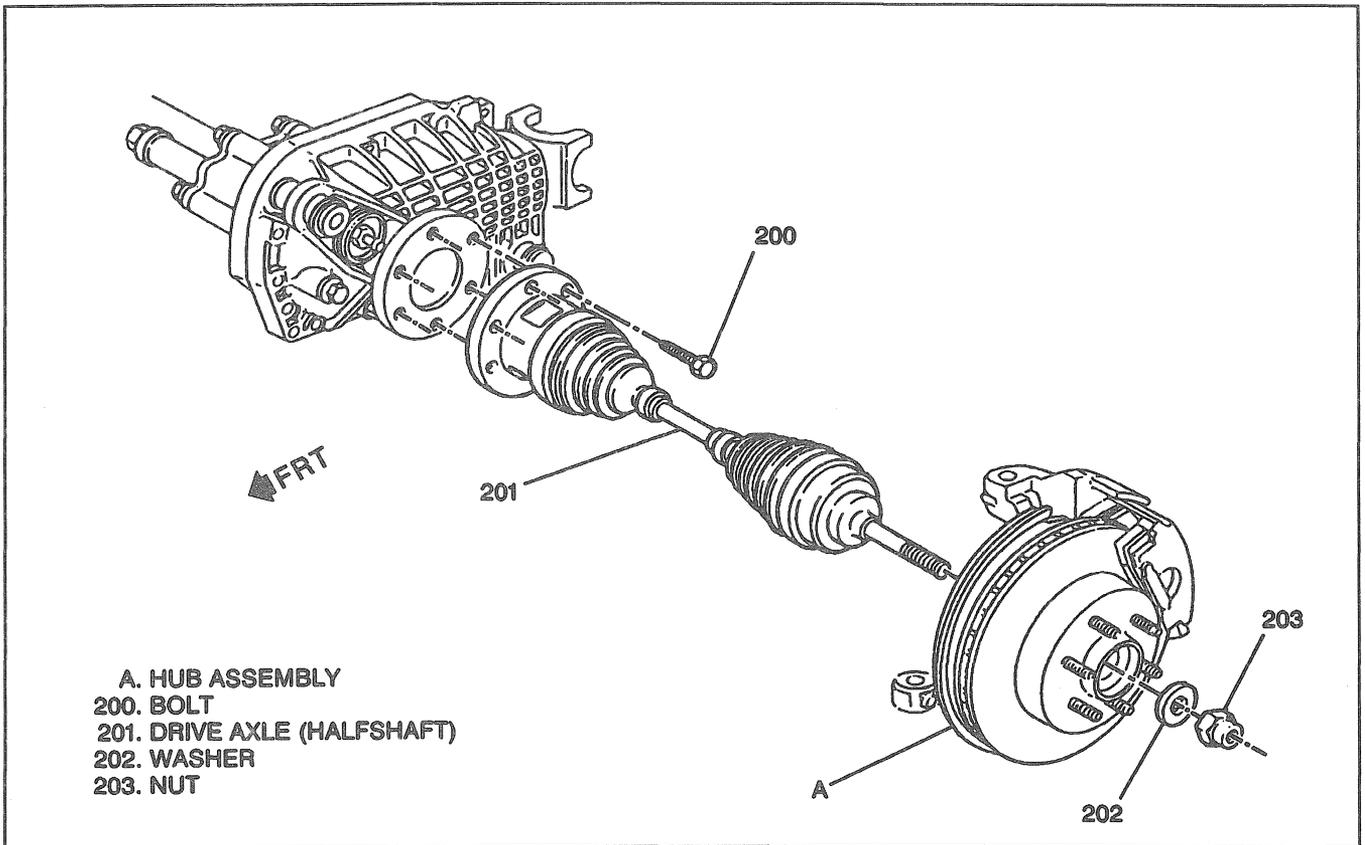

Figure 5—Drive Axle (Halfshaft)
Remove or Disconnect (Figures 5 through 12)
2. Drive axle (halfshaft) hub nut (203) and washer (202) (Figure 5).
- Loosen, but do not remove the 6 bolts (200) securing inboard C/V joint drive flange to the output shaft companion flange (Figure 5).
- 14. Six bolts (200) from inboard joint flange (Figure 5).
➔ Install or Connect (Figures 5 through 12)